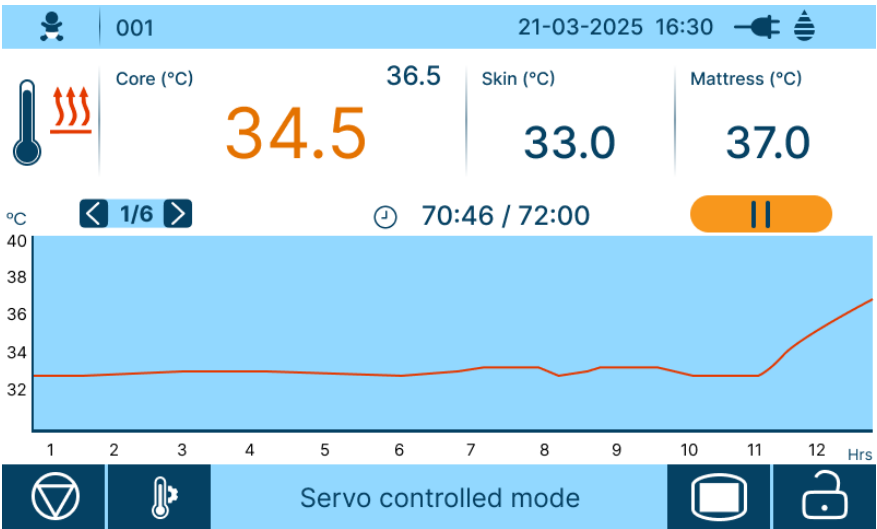

Figure 79: Select stop therapy icon
- This screen will ask for confirmation, “*Confirm to stop and exit therapy,*” as shown in Figure 79